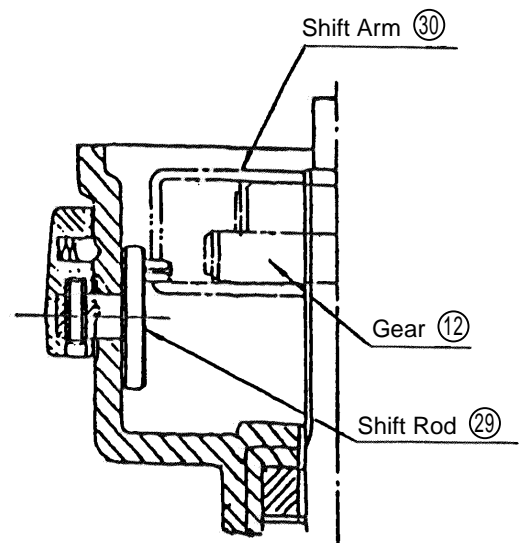

Fig. 5
1-2-4. Reassembly of the Speed Change Device: (See Fig. 5)
Note: The assembling directions of the Shifting Lever and Shifting Rod are illustrated in Fig. 5.
- (2) Mount the Shifting Arm ③① onto the Gear ①② and engage the Gear ①② onto the Spindle ⑤. The round hole of the Shifting Arm ③① must be faced to the inside of the Gear Cover. Assembly of the Gear is illustrated in Fig. 5.
- (3) Insert the recessed portion of the Shifting Arm ③① onto the roll pin of the Shifting Rod ②⑨.
- (4) Insert the D5 Pin ①⑤ into the round hole of the Shifting Arm ③①, and fix it in the Gear Cover ⑩.